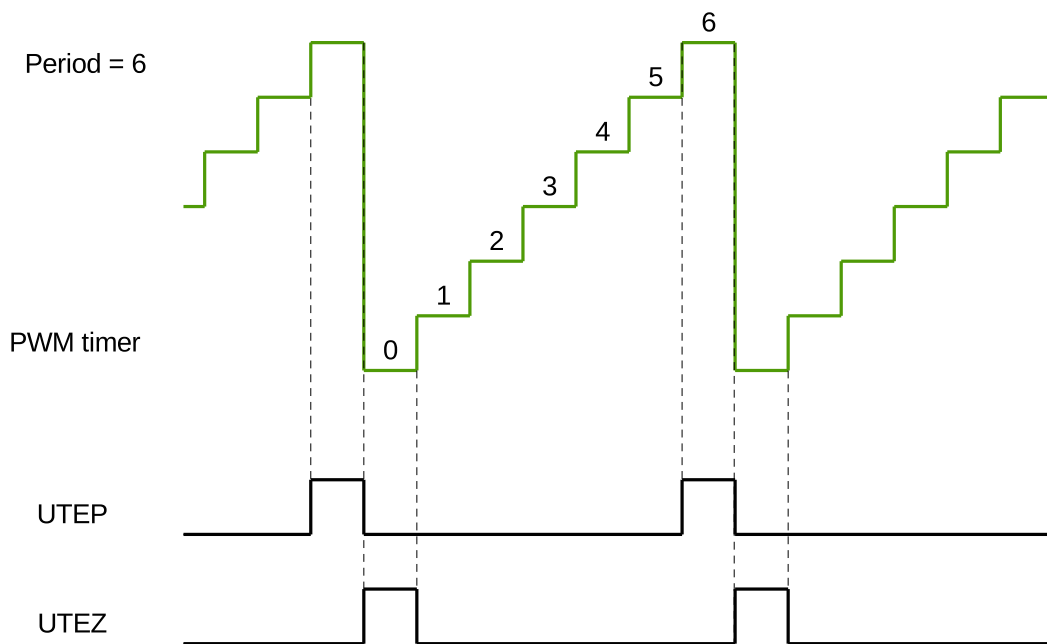

Figure 104: UTEP and UTEZ Generation in Count-Up Mode
Figures 104 to 106 show the timing waveforms of U/DTEP and U/DTEZ.
1. UTEP and UTEZ do not happen simultaneously. When the PWM timer is in count-up mode, UTEP will always happen one cycle earlier than UTEZ, as demonstrated in Figure 104, so their action on PWM signals will not